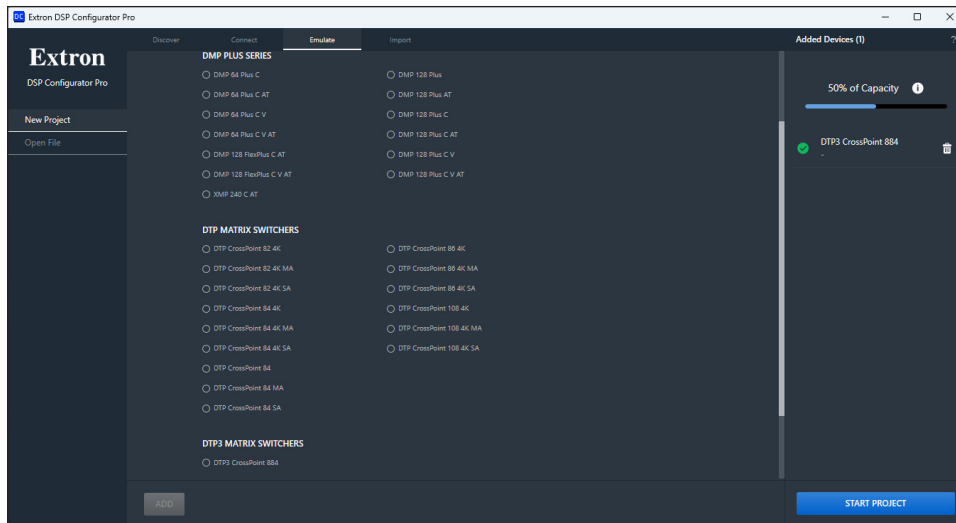

Figure 46. DSP Configurator Pro Emulate Page
- Click the **Emulate** tab (see figure 46).